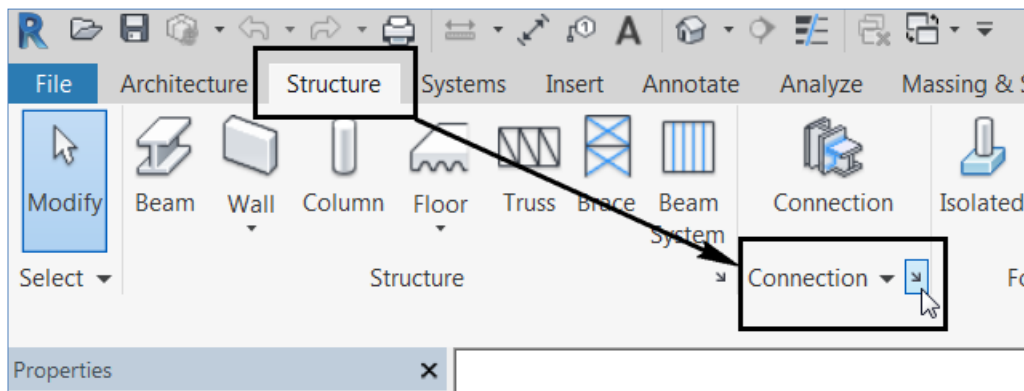

FIGURE 31: INVOKING THE STRUCTURAL CONNECTION SETTINGS DIALOG BOX IN AUTODESK REVIT
6. From the **Structure** tab, click on **Connection Settings**, as shown in Figure 31; the Structure Connection Settings dialog box will be displayed.